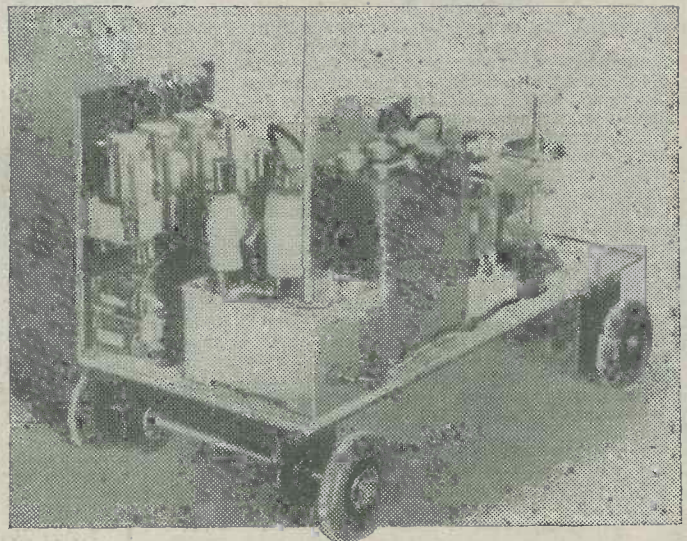

Fig. 2.—Showing the vertical rod aerial and the relay bank to its left.
selector switch (2). The receiver, with rod aerial, is seen to the left of the photograph at (5), the relay bank being situated immediately behind. This section of the machine is best seen in the second photograph, Fig. 2.